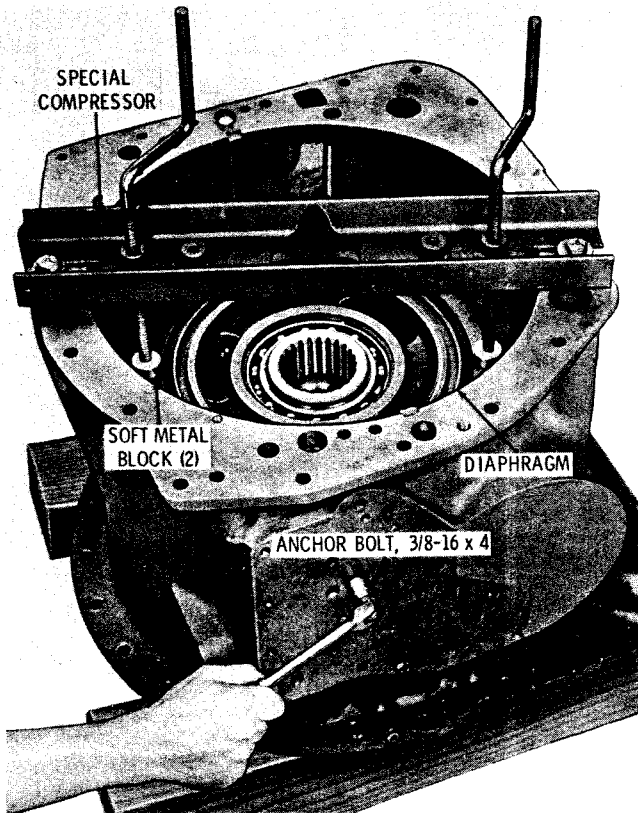

Fig. 5-31. Removing diaphragm anchor bolt
(1) Install the special spring compressor (refer to para 4-3a) onto the transmission housing. Place soft metal blocks under each compressor screw to protect the reverse clutch piston (fig. 5-31). Tighten the compressor screws. Remove the diaphragm anchor bolt and lock washer.